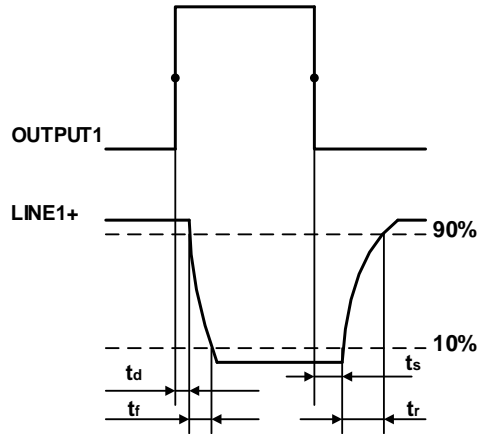

Figure 7-10 Parameter of opto-isolated output circuit
- Rising time delay = td+tf: <50μs (0°C~45°C) (parameter description is shown in Figure 7-10)
- Falling time delay = ts+tr: <50μs (0°C~45°C) (parameter description is shown in Figure 7-10)